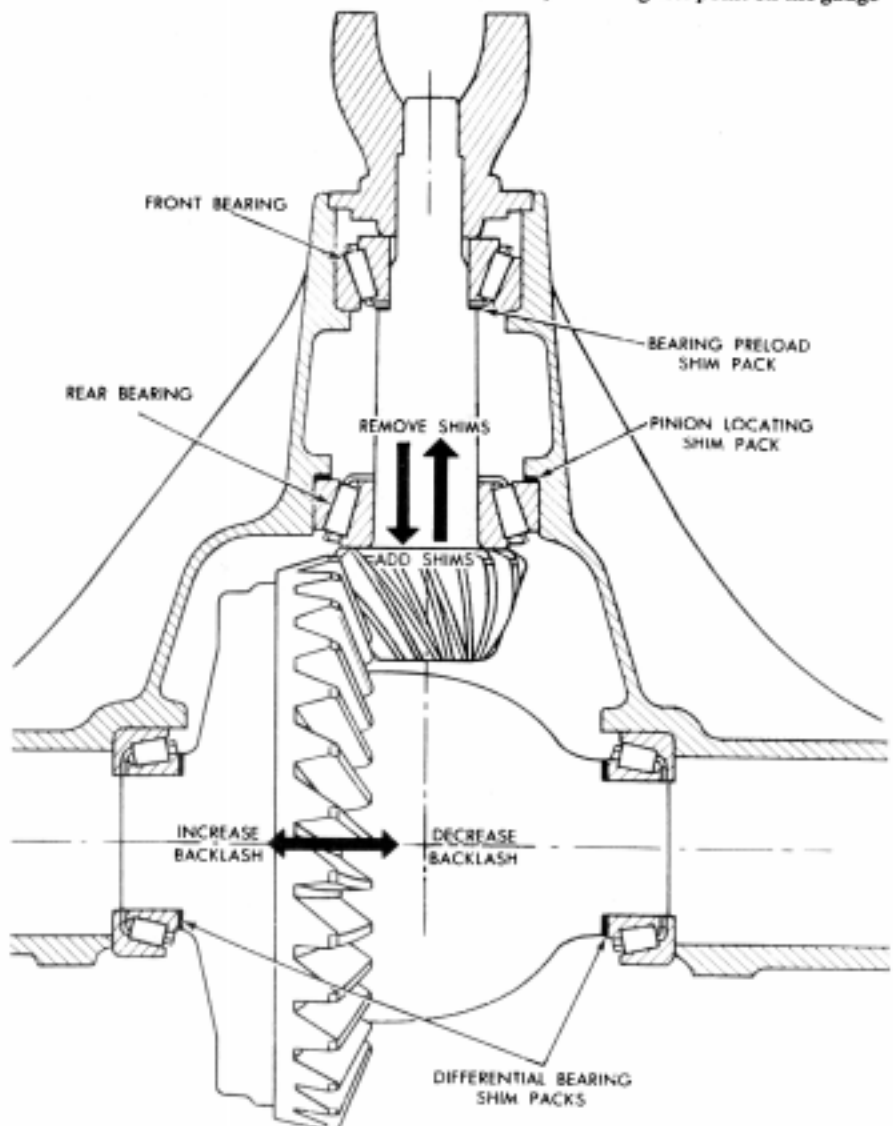

FIG. 17 Pinion and Ring Gear Tooth Contact
Two separate adjustments affect pinion and ring gear tooth contact, they are pinion depth (location) and backlash. On Dana axles, the pinion locating shim pack is installed between the pinion rear bearing cup and the carrier housing (Fig. 17). Therefore, adding shims moves the pinion toward the ring gear and removing shims moves the pinion away from the ring gear.
shaft with a zero-marked pinion, means that the actual assembly dimension is too great in the amount of the plus reading. To correct, add shims in thousandths of an inch that correspond to the plus reading. For example, an indicator reading of plus 10 with a zero marked pinion means that 0.010 inch in shims must be added to the rear bearing cup pack. The addition of shims will move the pinion gear closer to the ring gear and decrease the actual assembly dimension (Fig. 17).
- After the pinion depth has been adjusted and checked, remove the U-joint flange and front bearing. Add or subtract from the original front pinion bearing preload shim pack the same amount in thousandths of an inch that was added or subtracted from the shim pack behind the rear bearing cup (Fig. 17). Install the bearing preload shim pack, the outer bearing, the U-joint flange, washer and nut. Tighten the flange nut to 200-220 ft-lb on all models.